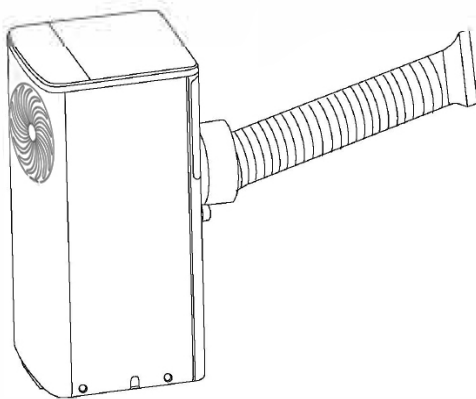

Fig. 1
1. Extend the hose just enough to reach the outside (max 1.5 m) and hook it to the rear part of the air conditioner (Fig. 1).
1. To make the hole in the glass, we recommend taking the porthole kit accessory to the glassmaker (Fig. 1).
(Fig. 1)